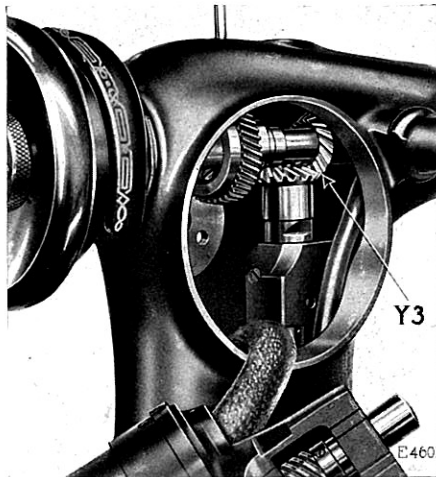
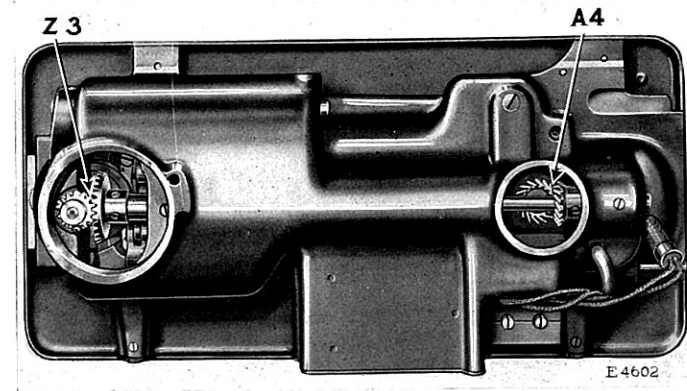

FIG. 28. BACK VIEW, SHOWING BEVEL GEARS IN ARM OF MACHINE
FIG. 29. BASE VIEW, SHOWING BEVEL GEARS IN BED OF MACHINE
- (g) Apply Singer Lubricant to the teeth of the two bevel gears (Y3, Fig. 28) next to the spiral gears. The greasing
1. There are three sets of bevel gears in the machine, as shown at (Y3, Fig. 28) and (Z3 and A4, Fig. 29). These bevel gears
2. The method of greasing the upper set of bevel gears (Y3, Fig. 28), i.e., those which are located in close proximity to the motor itself, has been explained under the heading "To Lubricate the Motor."
3. The two lower sets of bevel gears (Z3 and A4, Fig. 29) are exposed by removing the two round sheet metal covers located in the bottom of the machine, as shown in Fig. 7, page 7. This can be done with a small screw driver.